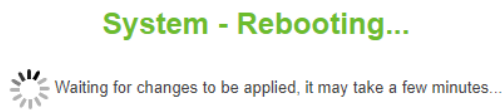

Figure 38. Rebooting screen
- Click on the  button to perform the reset; Figure 38 shows the screen indicating the reboot process.